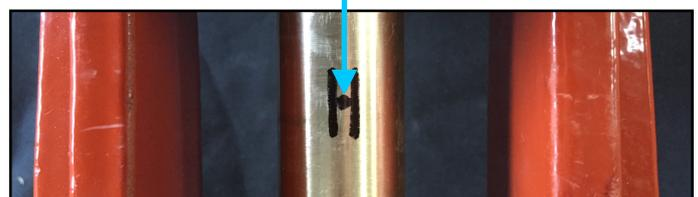

Fig 2: Two vertical markings on spindle with Magnet Location Point between the two.
4. Vertically mark the centreline of the valve spindle in permanent marker midway between the packing gland and the underside of the handle (above pre existing groove on some OS&Y valves). Refer to fig 2.